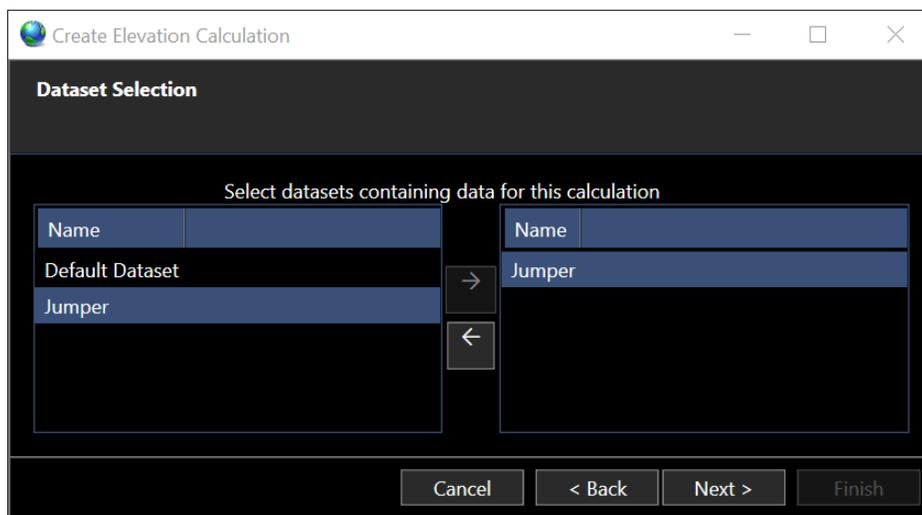

FIGURE 86 CREATE ELEVATION CALCULATION – DATASET SELECTION PAGE
4. Click Next to open the Dataset Selection page. Select the dataset containing the elevation data, see Figure 86.